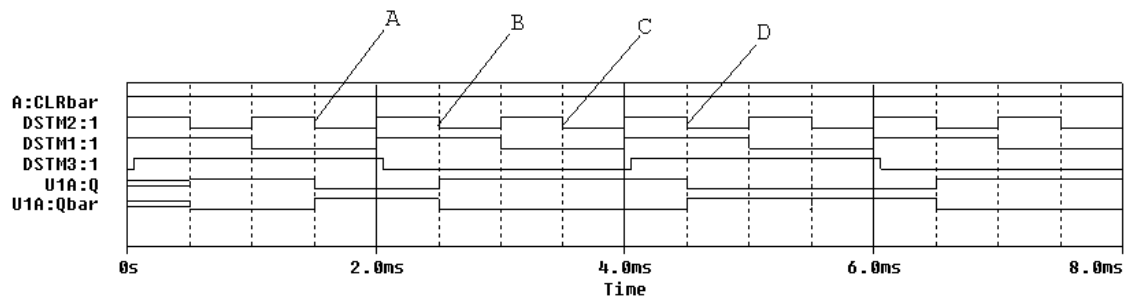

Figure S-1.
2. Show that the flip flop is giving the correct output at the clock cycles (A, B, C and D) indicated on the timing diagram in Figure S-1. DSTM2 is the clock signal, DSTM1 is J, and DSTM3 is K. Show how the truth table you found for the actual flip flop is consistent with the timing diagram at those four points. (6 pt)